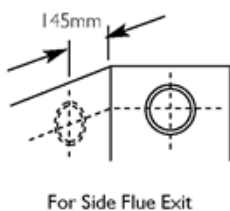

Fig. 32
4. Mark the position of the centre of the flue hole (rear exit). For side flue exit, mark as shown (Fig. 32).